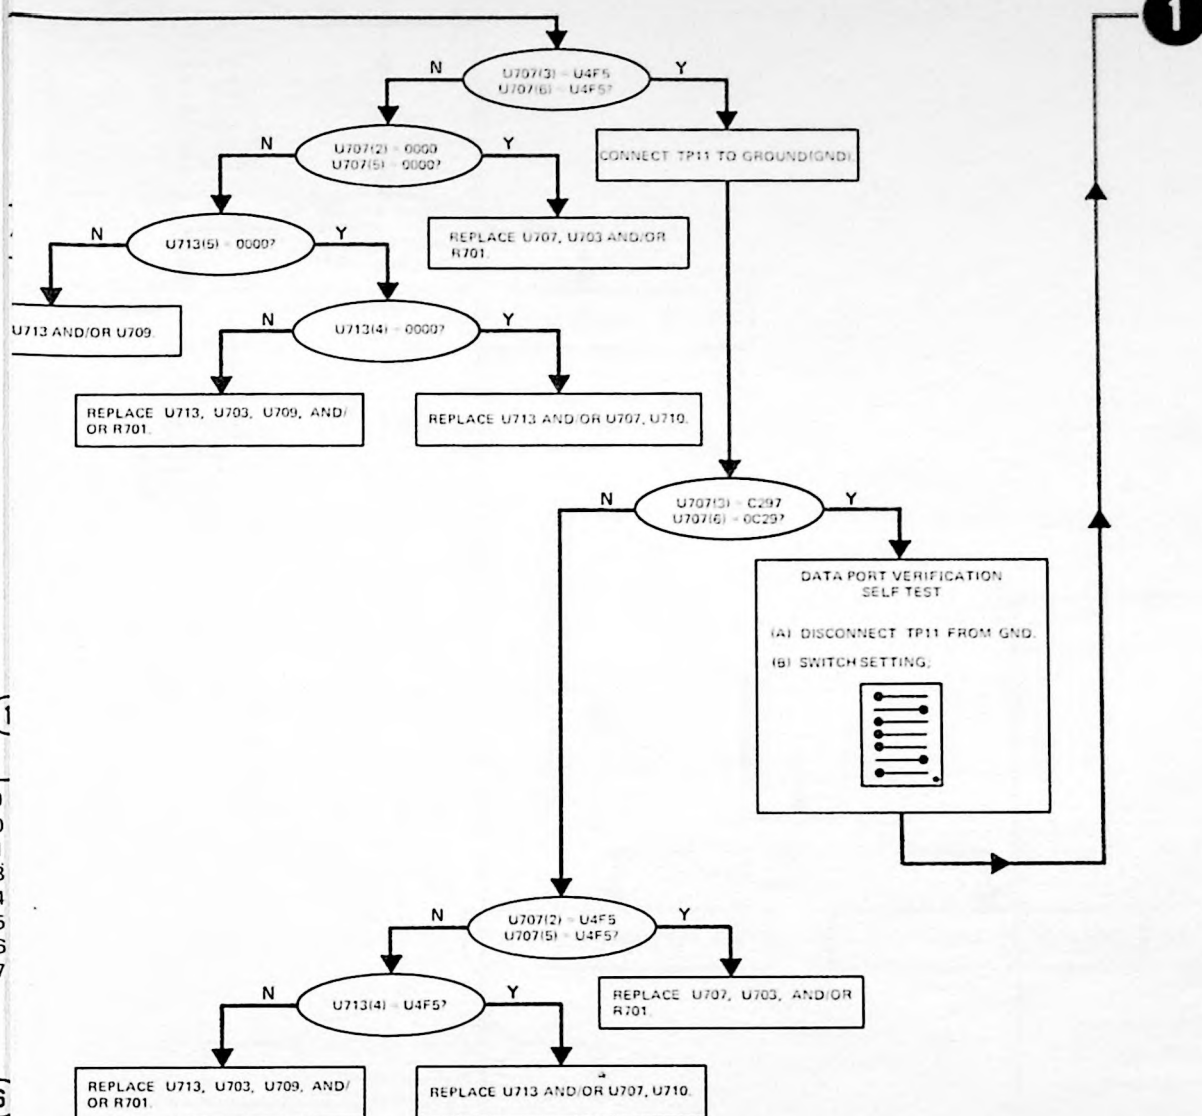

Figure 8-11. HP-IB Troubleshooting Flowchart.
8-68. The A3 PC assembly can best be troubleshot using the -hp- 5004A Signature Analyzer (SA) and the Troubleshooting Flow Charts given in Figure 8-11.